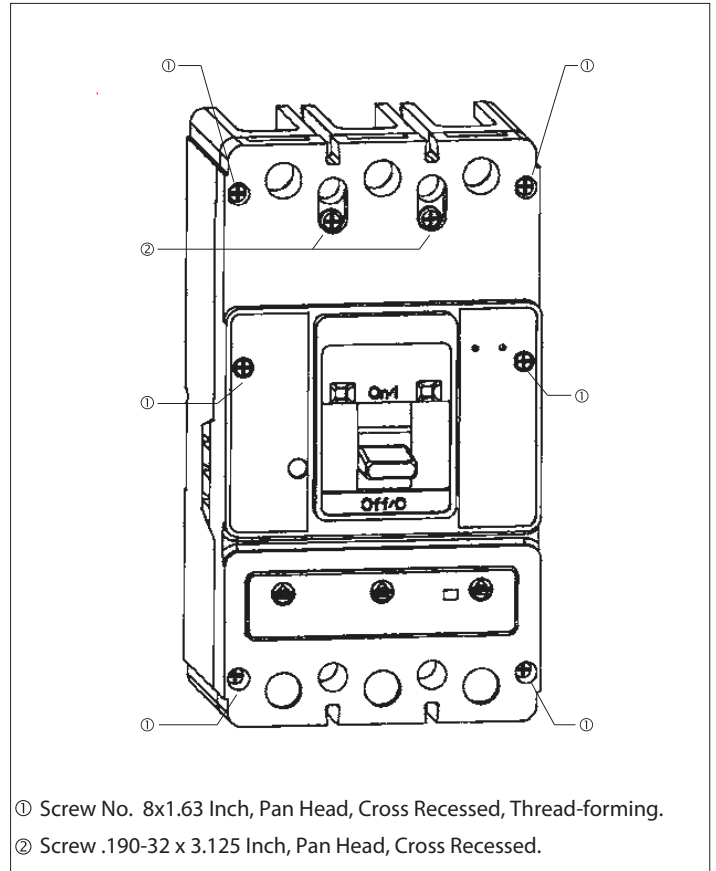

Figure 3. Cover Screw Installation Positions.
- 2.4. Install cover, and secure with pan-head screws followed by thread-forming screws, as shown in Figure 3.